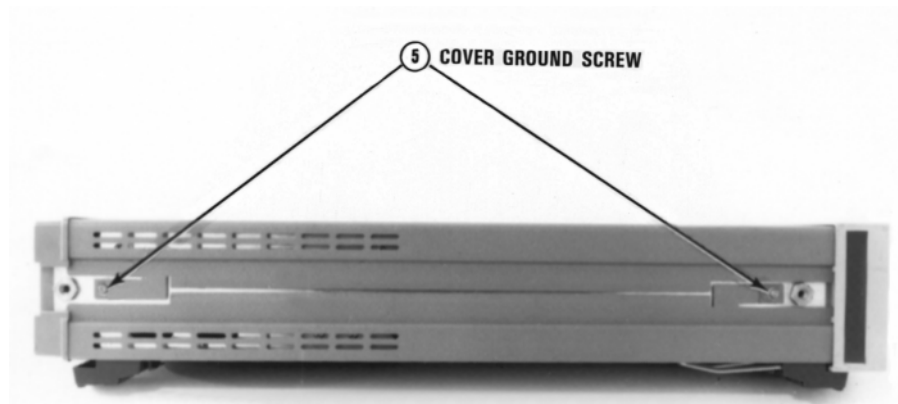

Figure 37. Covers ground screws
7. Use the #TX10 Torx driver to remove the top and bottom covers ground screws, as shown in Figure 37.
7. Refer to Figure 37. Turn the instrument so its left side faces you. Use the #TX10 Torx driver to reinstall the top and bottom covers ground screws.